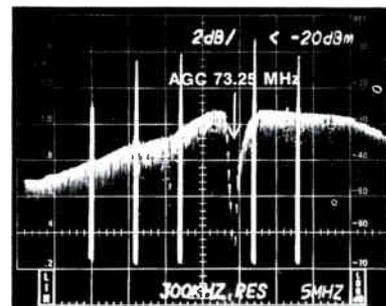

Figure 4
2) System AGC frequencies will be shown on the response traces as a notch (Figure 4); however, the slow sweep speed circumvents the need for special filters.